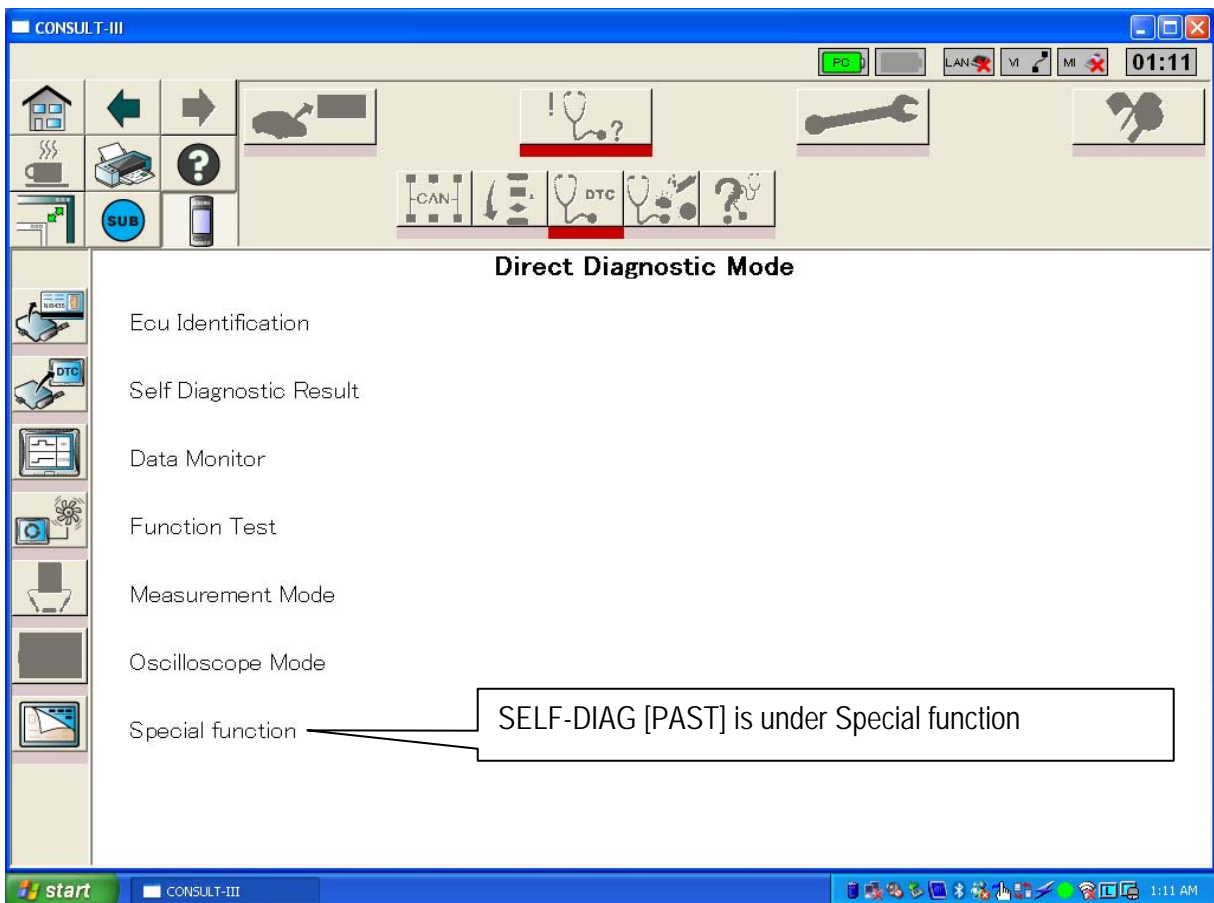

Figure 11
- NOTE:** If using C-III, air bag Self Diagnosis Past is under "Special Function" (see Figure 11).